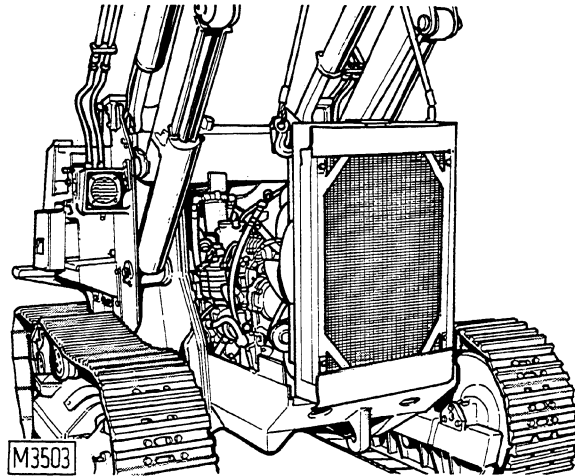

Fig.2-4.Removing radiator.
- disconnect water hose from radiator and withdraw radiator as shown in fig.2-4;